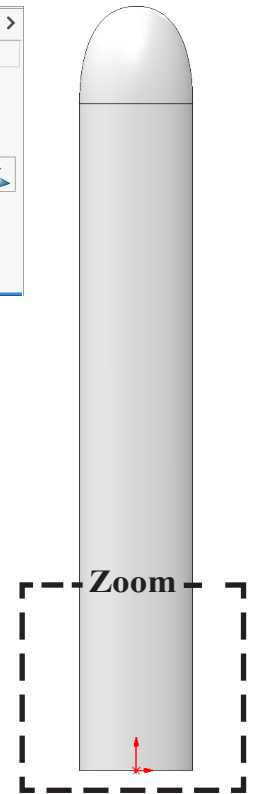

Fig. 18
Step 3. Zoom in on the bottom of Tube, **Fig. 18**.